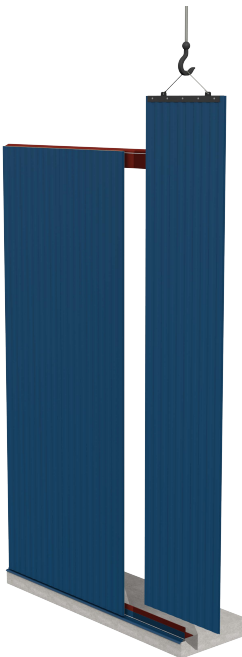

Figure 5.21a
5.21 Set panel in place as shown in figure 5.21a, remove clamp, engage and secure panel.